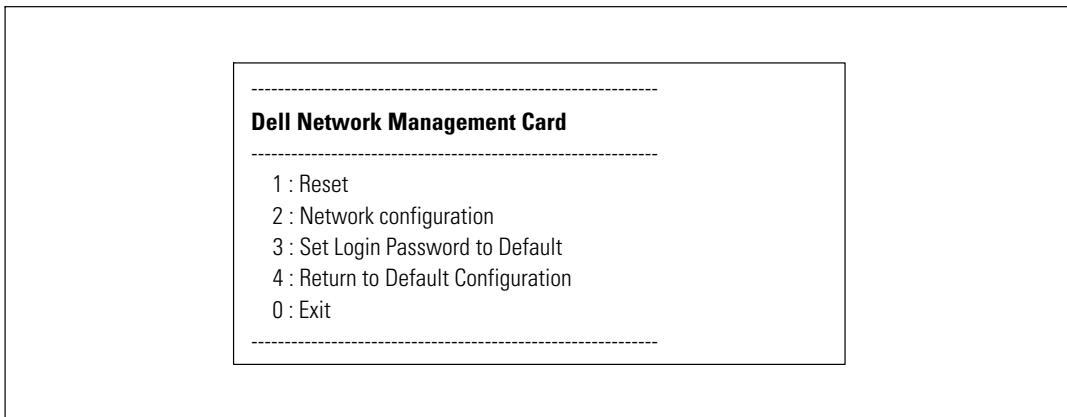

Figure 8. Dell Network Management Card Main Menu
- 6 Enter `admin`. The main menu displays (see Figure 8).